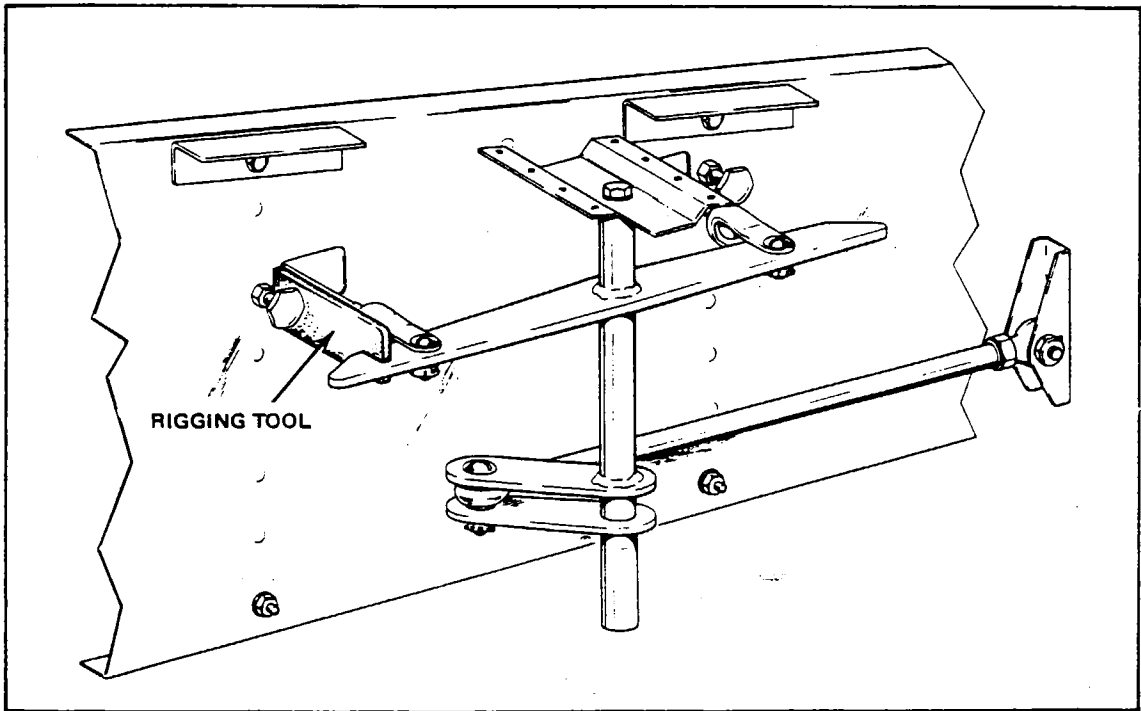

Figure 5-3. Bellcrank Rigging Tool
3. Affix a bellcrank rigging tool, as shown in Figure 5-3 between the forward arm of each bellcrank and the adjacent rib. The slotted end of the tool fits on the arm forward of and adjacent to the primary control cable end. The other end of the tool is positioned so that the side of the tool contacts the aft side of the bellcrank stop. The bellcrank must be moved to allow a snug fit of the tool between the bellcrank arm and rib. To do so, it may be necessary to loosen a primary control cable or the balance cable. (This tool may be fabricated from dimensions given in Figure 5-19.) Neutral position of the bellcrank may also be found by locating the center of the balance cable attachment bolt or the hole in the aft arm of the bellcrank three inches from the face of the adjacent rib.